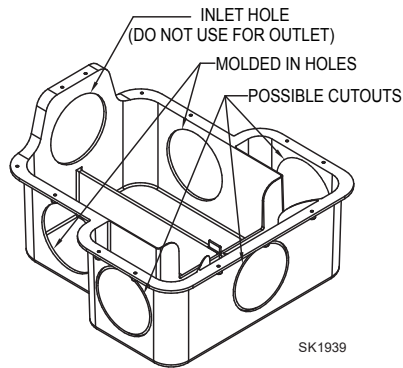

Figure 1.1
- 4.1) Determine the required number of slot covers from Figure 1.1 and the required baffle slot for each slot cover. See Figure 4.1.
- 4.2) Blank slot covers should be installed in the baffle slot openings of 2, 3 and 4 if their corresponding cutouts are not to be used for trench pipes. See Figure 1.1 and 4.1. When cutouts 2 and/or 3 and/or 4 are used and the splitter system is being pumped to, these baffle slots must have slot covers with the restrictor opening installed.